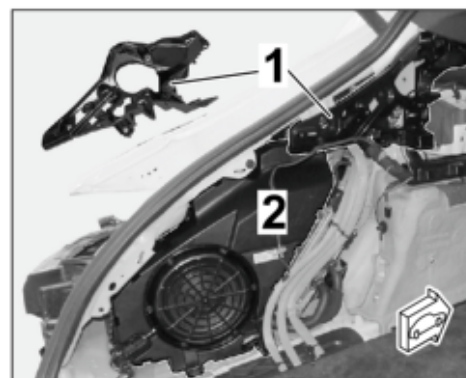

Figure 5 (Sport Turismo)
⇒ *Figure 5 (Sport Turismo)*
- 1.6.4 **ONLY** for vehicles with BOSE® Surround Sound System (9VL): ⇒ *Figure 5 (Sport Turismo) -2-*